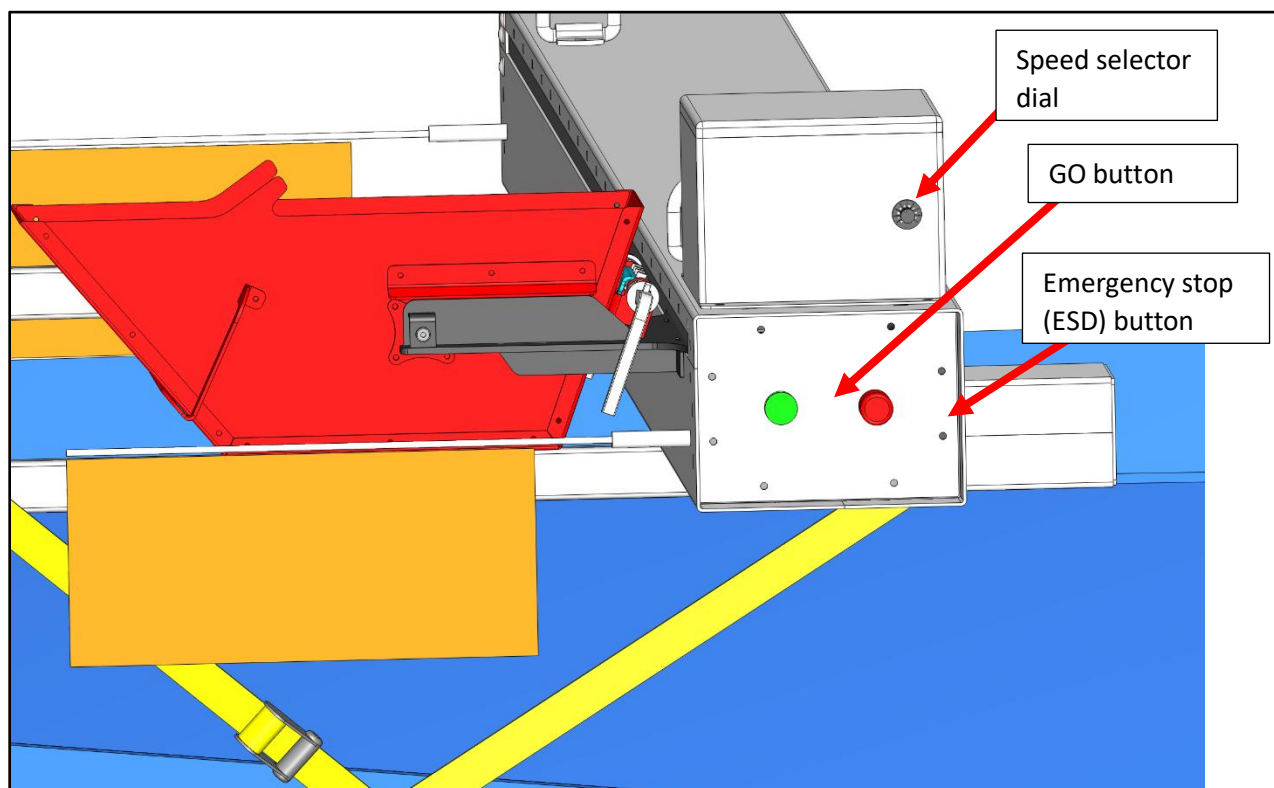

Figure 8 – Emergency stop button and Go button on the electrical enclosure side.
- There are red Emergency Stop switches located on either side of the A-1000. These switches must be in the “out” position to allow operation and can be depressed if needed to stop the moving carriage or electric motor movement at any time. They can be reset by twisting them to the “out” position. See Figures 8 and 9.
- The A-1000 sample taker is operated using a dial to select a sampling speed, and a Go button which engages an electric motor to move the cart and bucket across a conveyor and through an aggregate stream. See Figure 8. The A-1000 can be used for production rates of up to 1000 tonnes/h, and the electric operation ensures a constant speed throughout the sample taking process. The speed selector dial can be set at any value from 0-100, which roughly equates to 100-1000 tonnes/hr of aggregate production rate. However, the user will have to adjust the dial to ensure a correct volume of sample is taken each time (the target volume for the bucket to hold is approximately 3.5 US gal). Selecting a higher number will cause the moving carriage to travel faster, and higher volume rates of the aggregate stream being sampled will require a faster speed to be selected.